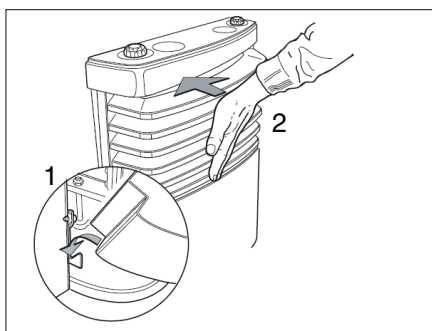

Fig. 108 Mounting the heater cover
- Mount the heater cover. To do so, insert the cover into the lower bracket (Fig. 108,1).
- Swivel the cover in until the catch levers engage audibly (Fig. 108,2).